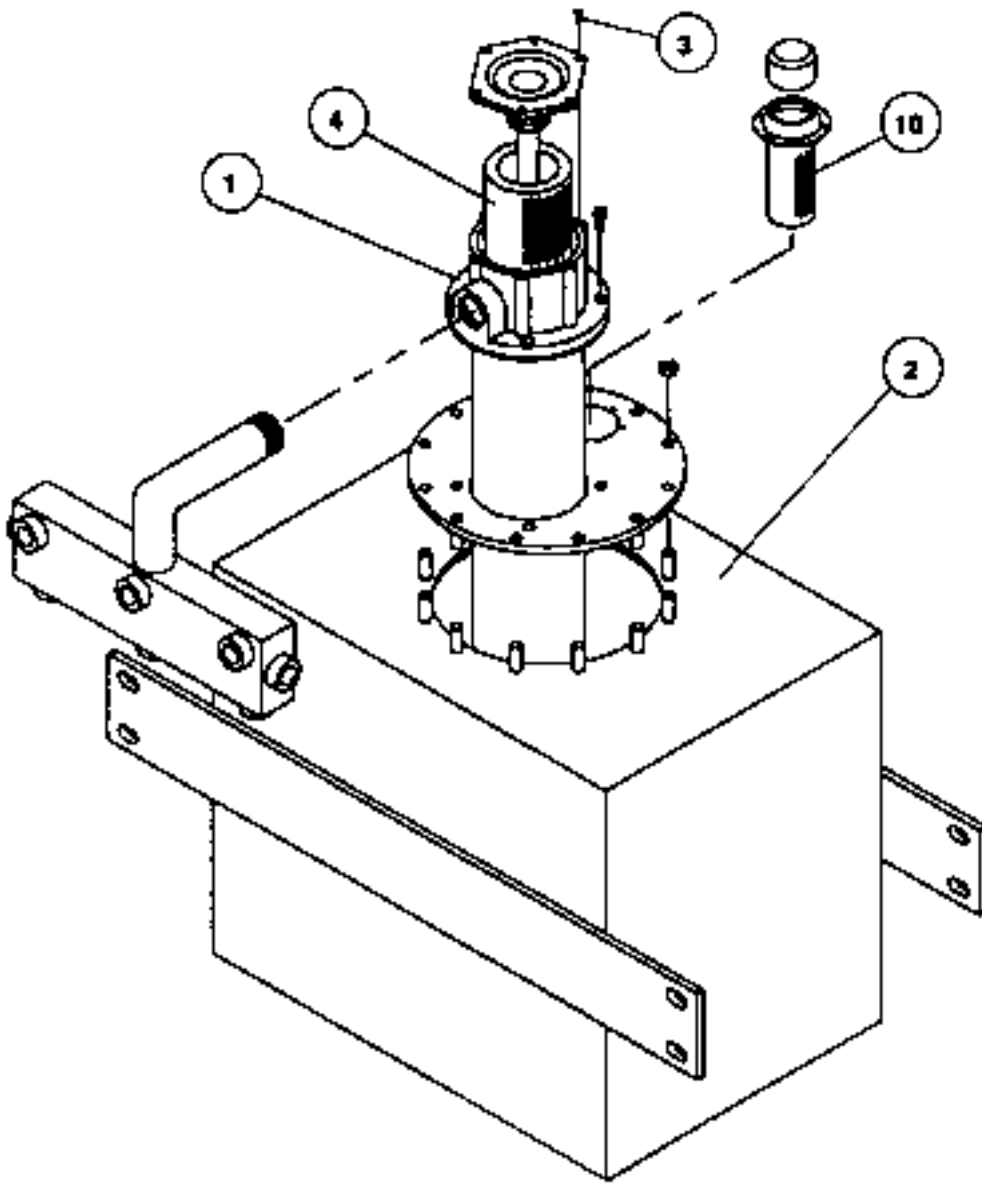

Figure 8
- B. The reservoir fill cap strainer (10) should be cleaned each time hydraulic fluid is added or changed. See figure 8.
For filter element change intervals, refer to the Preventive Maintenance Chart at the end of this section. In the following paragraphs, the numbers in parenthesis () refer to the item numbers in **Figure 8**.